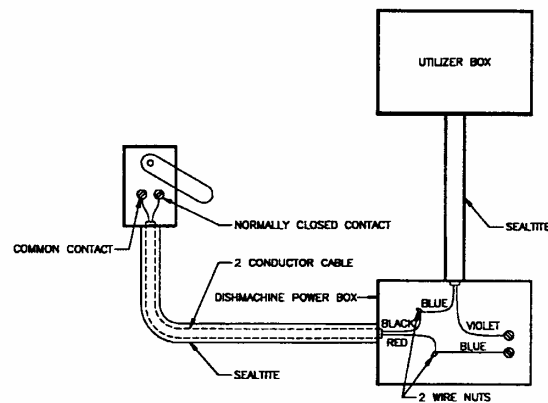

Figure 14. Wiring Instructions
2. Cut the blue wire from the Utilizer III. Be sure to leave enough wire on each side of the cut to allow easy wire nutting of each end to a separate wire as shown in Figure 14.
3. Attach the 2-wire cable in the dishmachine power box as shown in Figure 14.